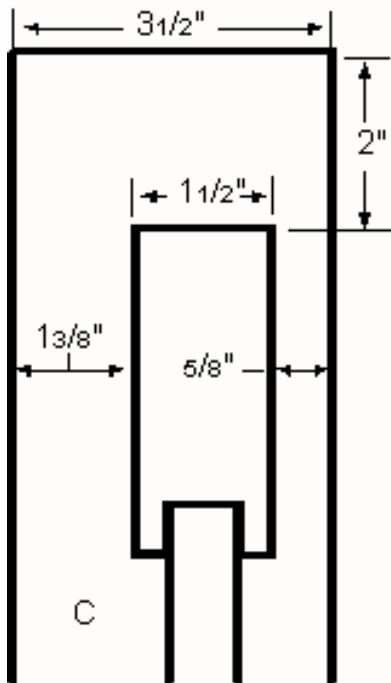

Figure 3
1. Cut eight headboard poster verticals (C) from 1 x 4 pine, each measuring 41-1/2 inches long.
- In order to center the completed headboard posters, the first headboard poster vertical (C) must be offset when it is attached to the headboard assembly. Refer to *Figure 3* to mark the placement of the headboard assembly on the first headboard poster vertical (C).
1. Cut eight footboard poster verticals (G) from 1 x 4 pine, each measuring 25-1/2" long.
2. In order to center the completed footboard posters, the first footboard poster vertical (G) must be offset when it is attached to the footboard assembly. Refer to *Figure 3* to mark the placement of the footboard assembly on the first footboard poster vertical (G).